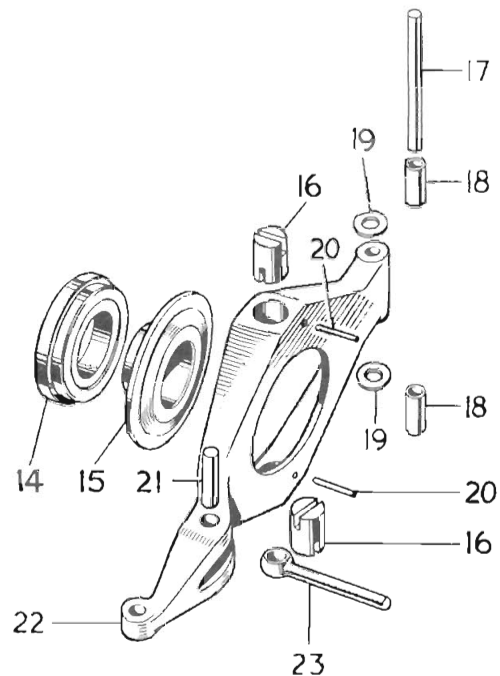

Fig. 11. Exploded operating lever assembly (Herald 1200, 12/50 and Spitfire)
Referring to Fig. 11 for Herald 1200, 12/50 and Spitfire vehicles:— drive the pin (17) from the clutch housing and remove the operating lever (22). Drive out the pins (20) and release the bearing sleeve (15) by extracting the plugs (16). Withdraw the bearing (14) from the sleeve.